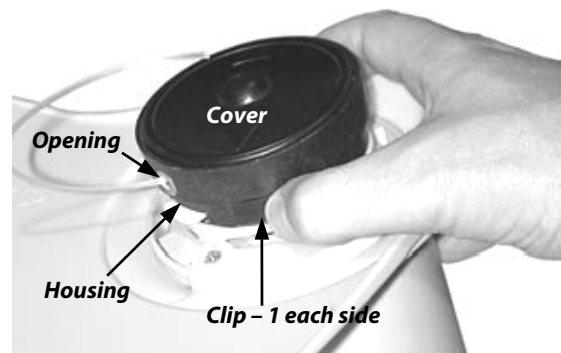

Figure 39
1. Using two (2) fingers, press the Clips on the side of the Spool Housing (**Figure 39**) and push them UP slightly towards you. The green Cover will pop up part way and then remove it. The outer black Spool Housing stays on the Trimmer.